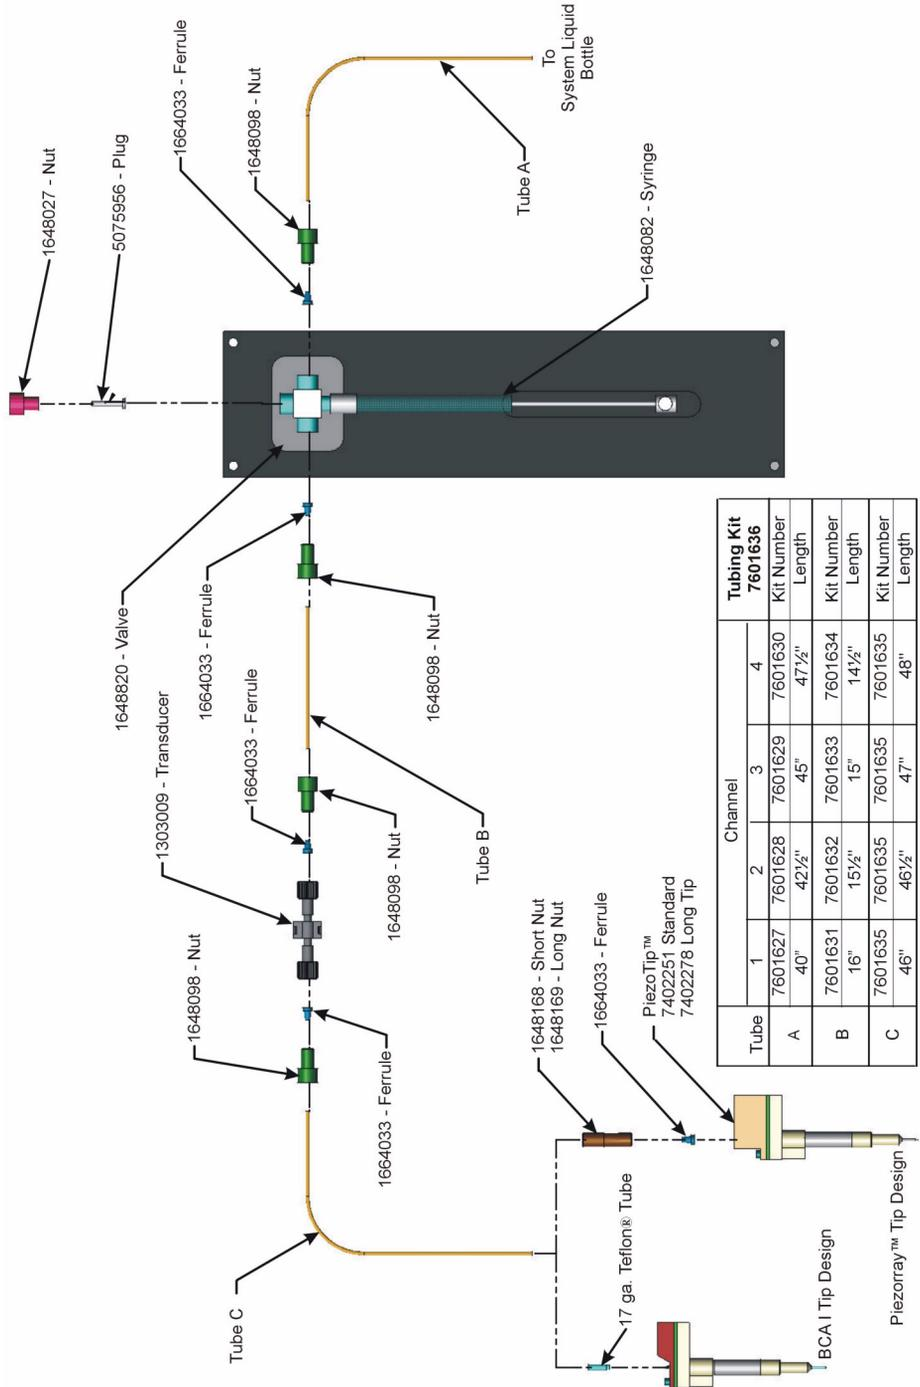

Figure 10-24. Liquid Lines Tubing Chart.
- Tubing lengths are channel and segment specific (Figure 10-24).
7. Choose the appropriate length tubing segment for **Tube C** (Figure 10-24) in the channel that has the defective tubing.
6. Choose the appropriate length tubing segment for **Tube B** (Figure 10-24) in the channel that has the defective tubing.
6. Choose the appropriate length tubing segment for **Tube A** (Figure 10-24) in the channel that has the defective tubing.